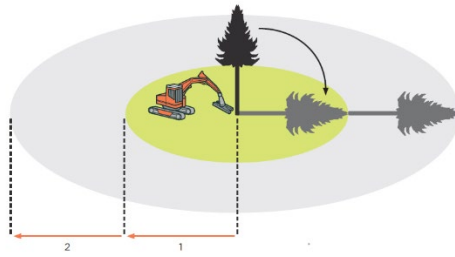

Figure 17: Danger zone for workers around working felling machines
20.3.3 This is the minimum zone to protect workers from snags or breakage from the felled or nearby trees (Figure 17). There may be circumstances when a larger zone is needed.